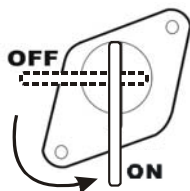

Figure 6- Fuel Valve in the “ON” position
4. Turn the fuel valve to the “ON” position (see figure 6).